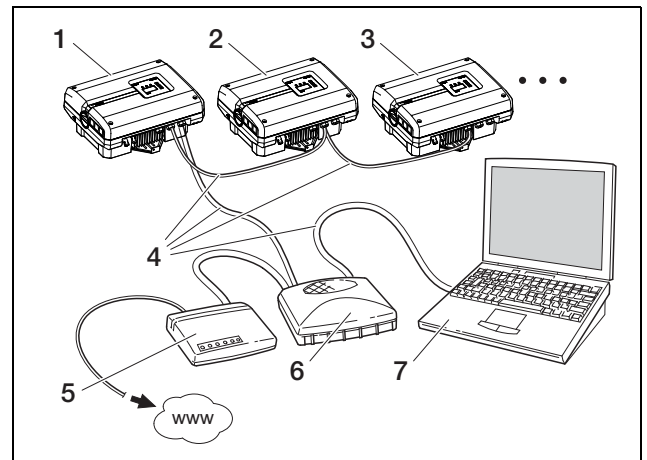

Fig. 52: Network settings with manual network configuration for external DSL router, subnet mask: 255.255.255.0, ☒ external router
- Or you operate the inverter through a DSL connection with router and want to connect to the inverter remotely via the router (figure 52).